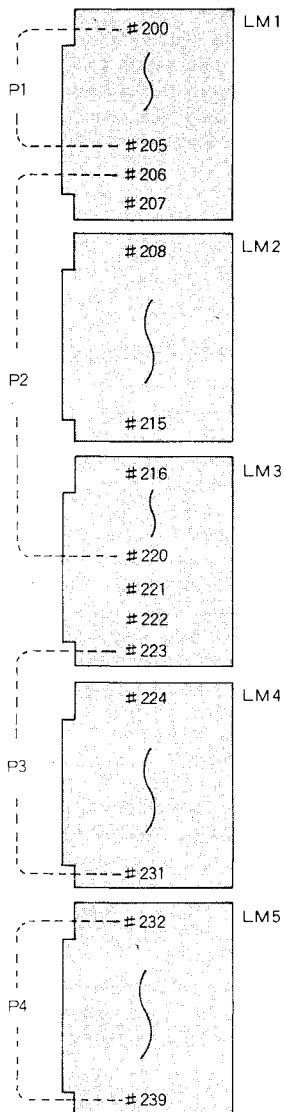

Fig. 4 Assignment of Station Paging
1. If the station paging zones are to be assigned as shown in Table 1, each individual LM unit is divided as shown in Fig. 4.